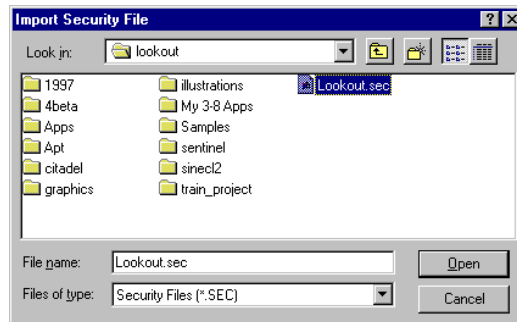

Figure 9. Import Security File Dialog Box
2. Select **User»Import Security File** from the **User Manager** dialog box. The following dialog box appears as shown in Figure 9.